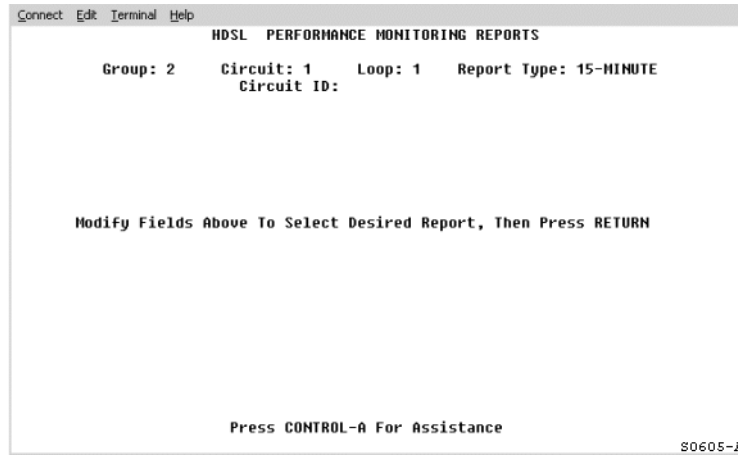

Figure 10. HDSL Performance Monitoring Reports Screen
- 3 From the Performance Monitoring menu, select **PM Reports**. The HDSL Performance Monitoring Reports screen appears (Figure 10 on page 21).